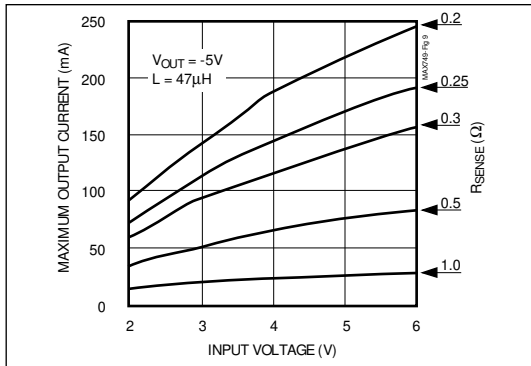

Figure 9a. Maximum Output Current vs. Input Voltage, VOUT = -5V
To maximize efficiency and reduce the size and cost of the external components, minimize the peak current. However, since the output current is a function of the peak current (Figures 9a-9e), the limit should not be set too low.
- In Figures 9a-9e, locate the graph drawn for the appropriate output voltage (which is either the desired output voltage or, if that is not shown, the graph for the nearest voltage more negative than the desired output). On this graph find the curve for the highest  $R_{SENSE}$  (the lowest current limit) with an output current that is adequate **at the lowest input voltage**.
The theoretical design curves shown in Figures 9a-9e assume the minimum (worst-case) value for the current-limit comparator threshold. Having selected the current-sense resistor, the maximum current limit is given by  $180\text{mV}/R_{SENSE}$ . Use the maximum current-limit figure when choosing the transistor, coil, and diode.